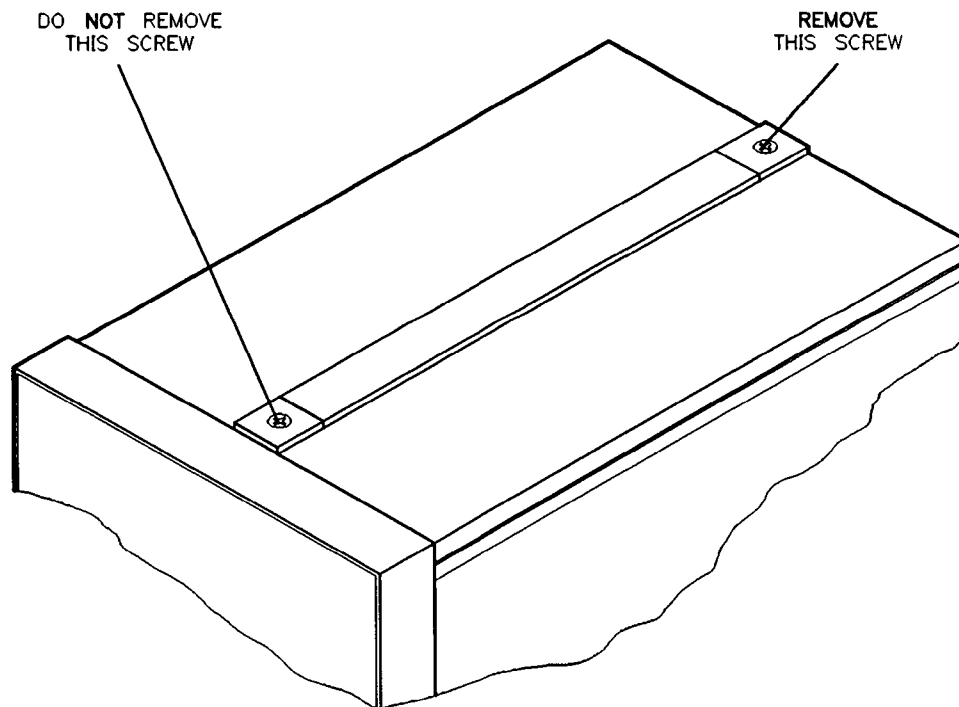

Figure 6-6. Locating the Top Cover Screw
1. Remove the *rear* screw on the instrument handle (see Figure 6-6).